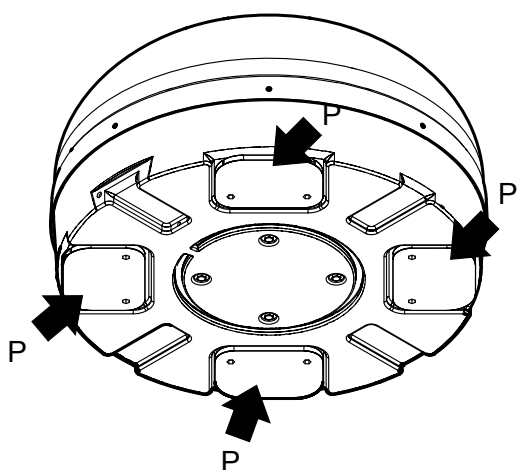

Fig. 7
3. Carefully clean the 4 mounting plates (P) on the antenna and the area in which the antenna will be located with alcohol and let evaporate before applying the sealant (**Fig. 7**).